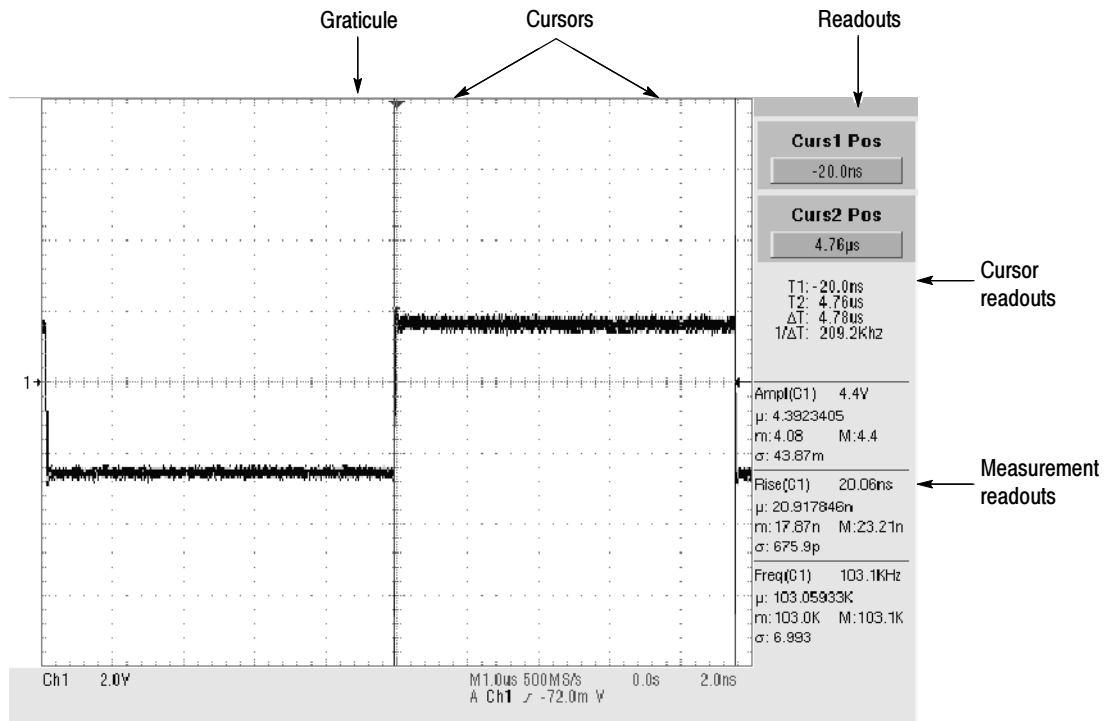

Figure 3-30: Graticule, Cursor, and Automatic measurements
- *Taking Automatic Measurements*, on page 3-122, describes how you can setup the oscilloscope to automatically measure and display a variety of waveform parameters. See Figure 3-30.
- *Taking Cursor Measurements*, on page 3-132, describes using cursors to make measurements on waveforms. See Figure 3-30.